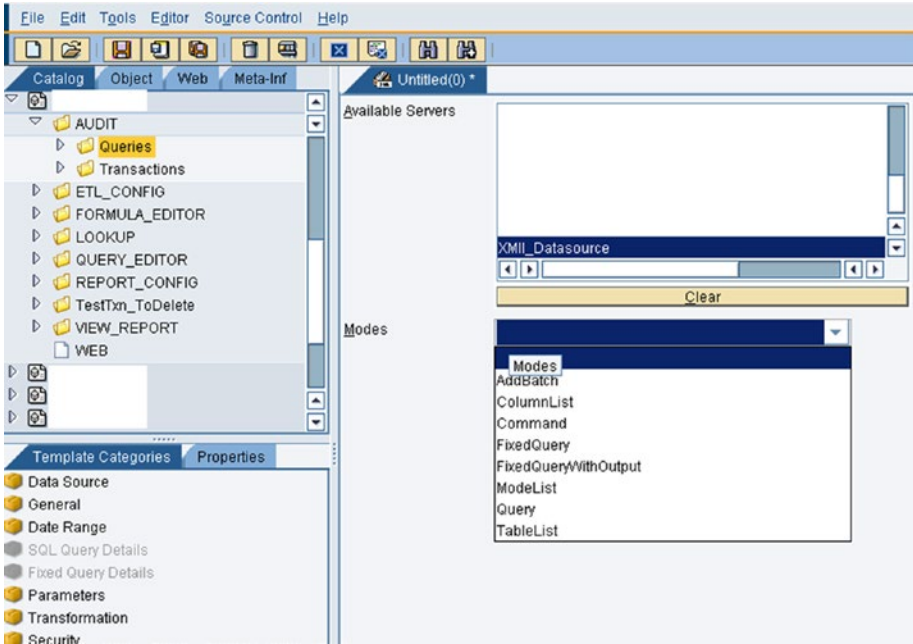

Figure 6-4. Choose a mode from the data server
3. Select a mode for the query from the Modes list. Different types of connectors will have different modes available. See Figure 6-4.